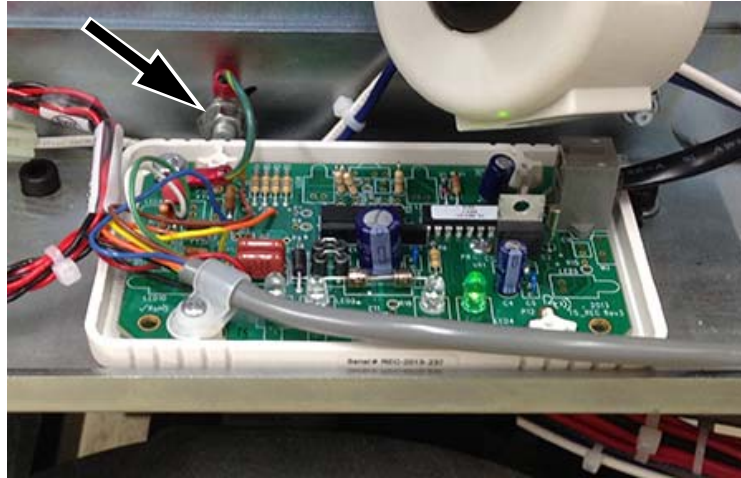

Figure 2-3 Attach ground wire
3. Remove the existing nut and washer located behind where the PCB Module is to be placed, then attach the ground wire from the PCB Module to the system chassis stud and re-install the washer and nut. See Figure 2-3.